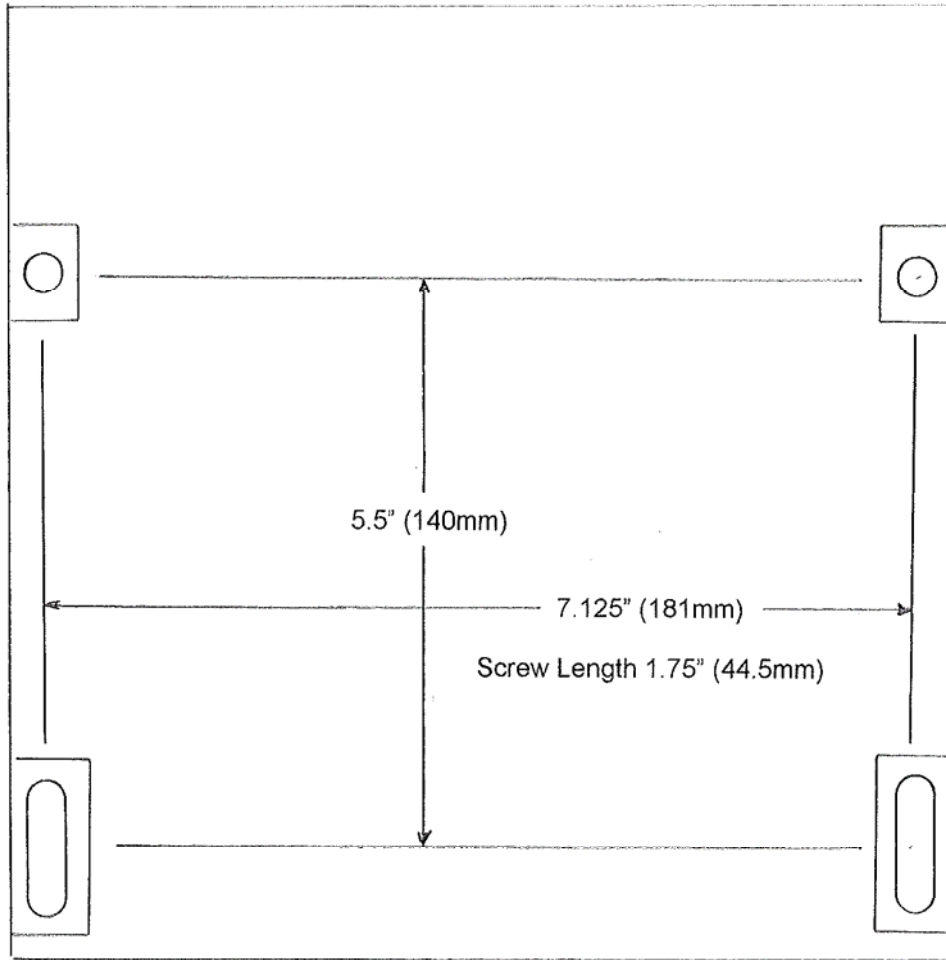

Figure 3.1-2: Control Unit mounting template
The control unit should be mounted on a flat surface that is at least 12 inches (300mm) square. Figure 3.1-2 shows the mounting dimensions required to mount the basic control unit using four (4), #8 screws with the internal mounting brackets.